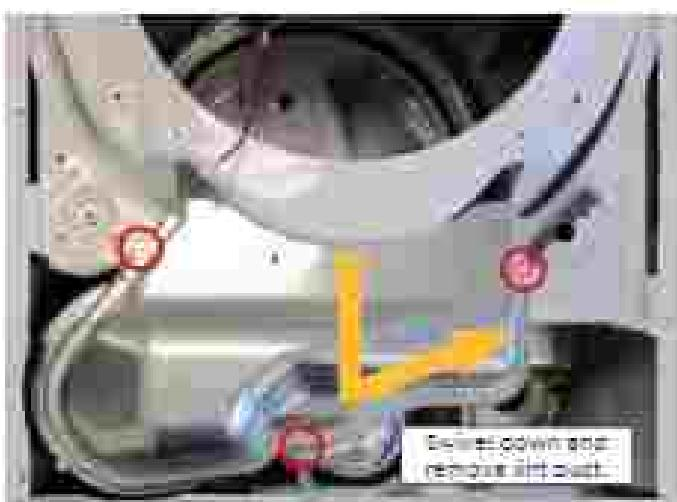

Figure 3 - Remove lint duct screws.
5. Remove the three (3) 1/4" hex-head screws from the lint duct as illustrated in Figure 3. Slide the lint duct down from the bulkhead and remove.